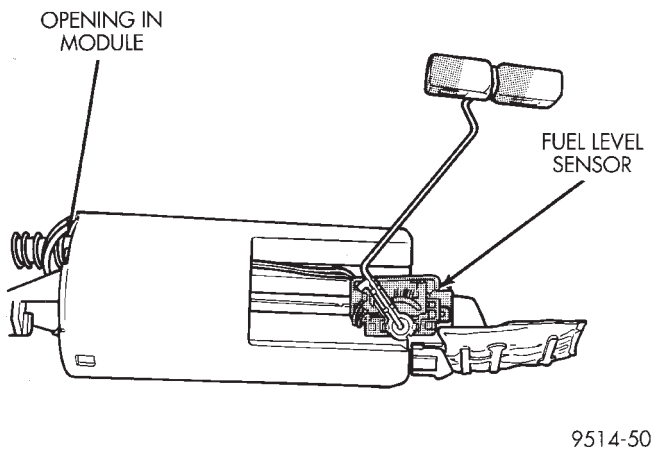

Fig. 24 Level Sensor Removal/Installation
(4) Slide level sensor wires through opening fuel pump module (Fig. 24).